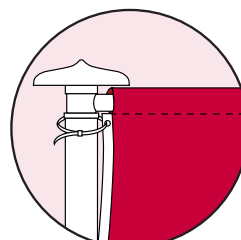

Fig 5a,
- 6, Secure plastic ties through the eyelets and around the pole. **DO NOT OVER-TIGHTEN** (see fig 5a).